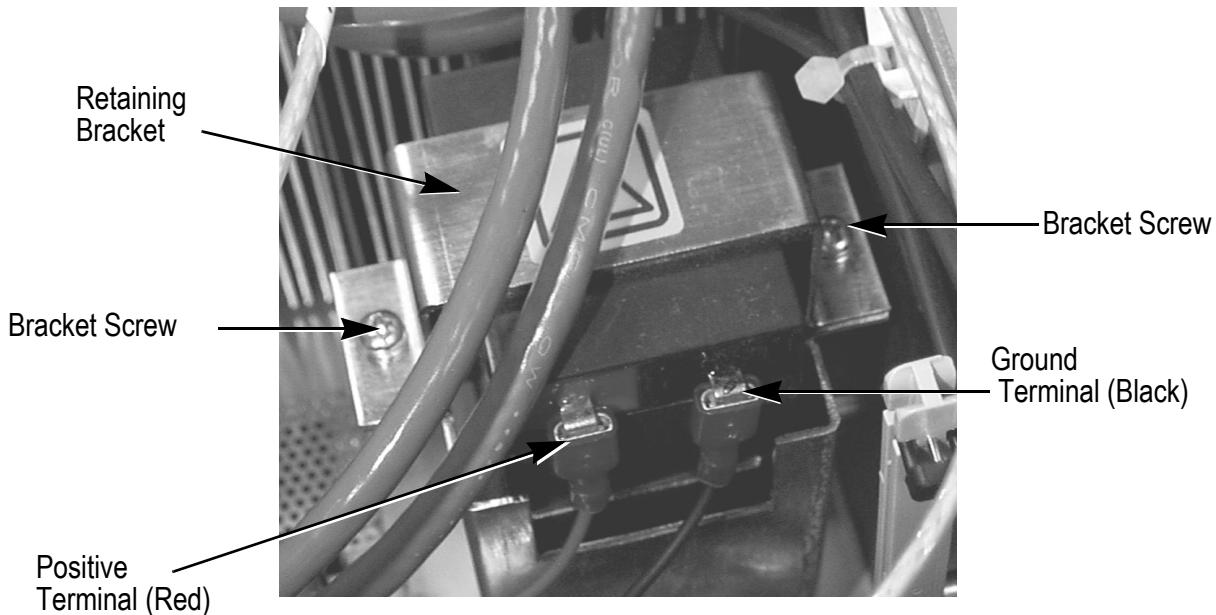

Figure 6-20. Power Supply Backup Battery
1. Using an Allen wrench, Remove the top cover of the power supply. The Verdi backup battery is located towards the front right hand corner of the Verdi power supply (with respect to the power supply front panel display). See Figure 6-20.
2. Remove the two Phillips-head screws that secure the battery retaining bracket in place, see Figure 6-20, and remove the bracket.